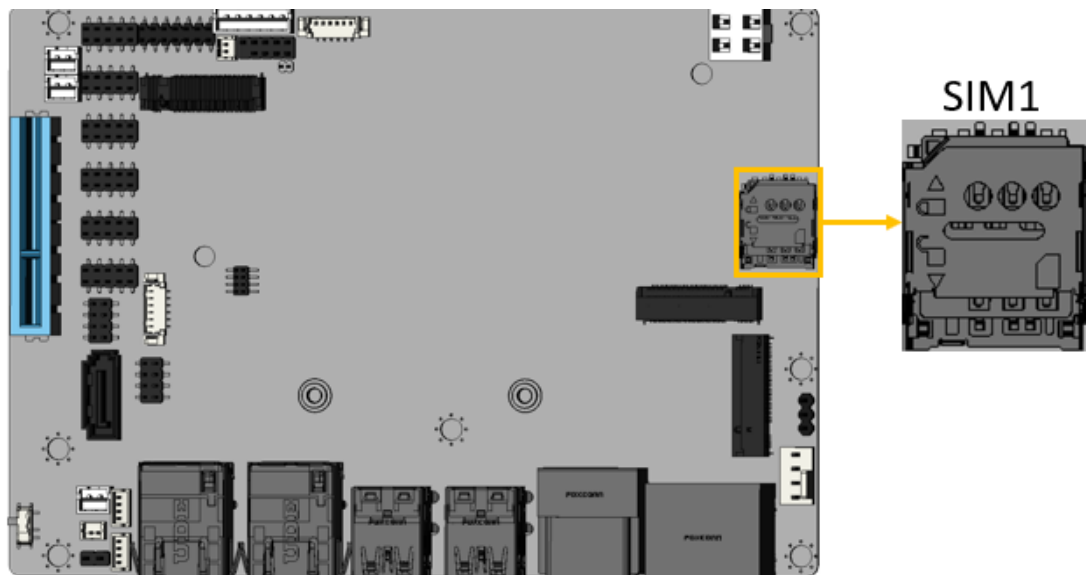

Figure 3-29: SIM Card Slot Location
- CN Location:** See **Figure 3-29**